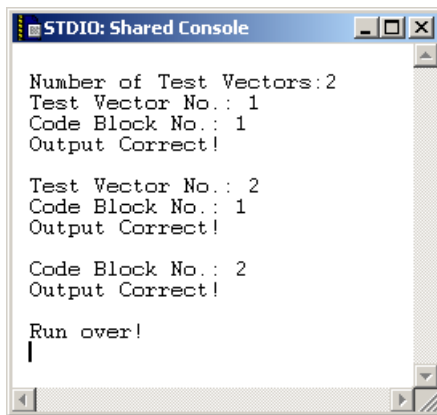

Figure 3. TCOP Driver Output
4. Under the Multi-Core Debug menu, choose **RUN ALL** to run both projects. LEDs 7, 8, 12, and 13 on the MSC8126ADS flash and a standard I/O window opens. **Figure 3** shows what the text in the STUDIO window looks like when the TCOP driver runs correctly.